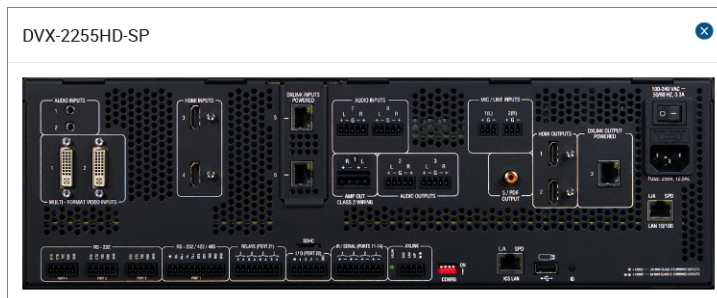

FIG. 30 Example Device Connections view
- Click on the device link under **A/V Switcher** to open the *Device Connections* view - an image of the rear panel connector layout of the selected DVX Switcher (FIG. 30):